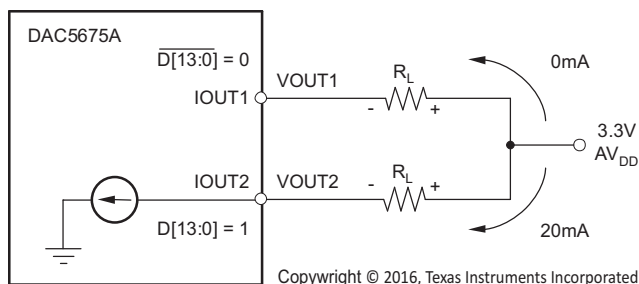

Figure 20. Relationship Between $D[13:0]$, IOUT1 and IOUT2
The output current flow in each pin driving a resistive load can be expressed as shown in Figure 20, as well as in Equation 2 and Equation 3.
Figure 21 shows a simplified schematic of the current sink array output with corresponding switches. Differential NPN switches direct the current of each individual NPN current sink to either the positive output node IOUT1 or its complementary negative output node IOUT2. D[13:0] controls the S(N)C current switches and D[13:0] controls the S(N) current switches, as explained in the previous **DAC Transfer Function** section (see Figure 20). The output impedance is determined by the stack of the current sinks and differential switches, and is > 300kΩ in parallel with an output capacitance of 5pF.